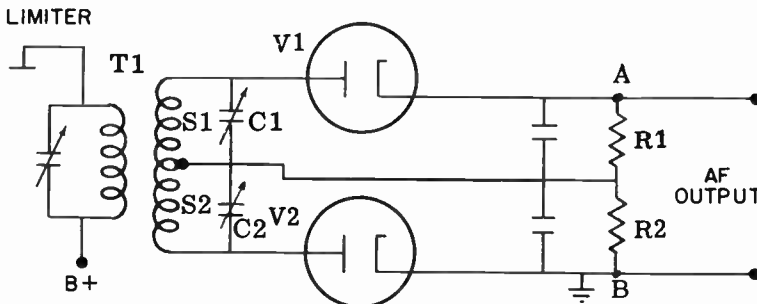
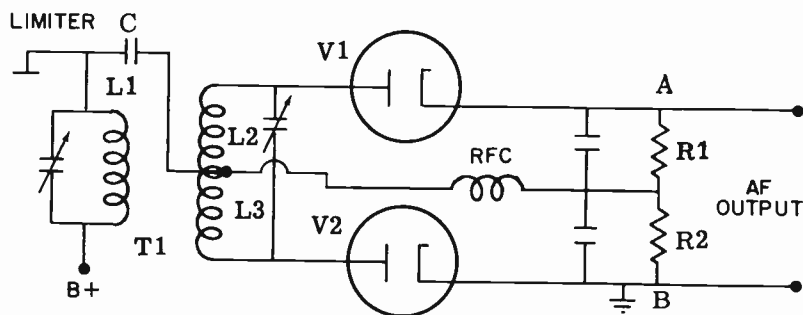
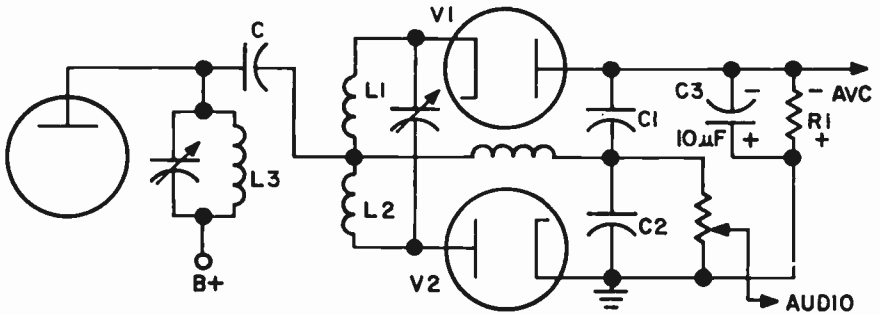

FIG. 16-17. A TRAVIS DISCRIMINATOR
FIG. 16-18. THE FOSTER-SEELEY DISCRIMINATOR.
FIG. 16-21. A RATIO DETECTOR.
**DISCRIMINATOR.** Fig. 16-17 illustrates a basic discriminator. It is known as a **TRAVIS DISCRIMINATOR**. The primary and secondary of T1 are inductively coupled. The primary tuned circuit is tuned to the center frequency of the incoming IF signal. The secondary is a double tuned circuit. S1C1 represents one tuned circuit and S2C2 represents the other tuned circuit. S1C1 is tuned to one side of the IF center frequency, while S2C2 is tuned to the other side of the IF center frequency. The resonant frequency of each secondary tuned circuit is spaced slightly more than the expected transmitter swing.
frequency, a small amount of voltage will appear across S1C1. This will be rectified and a small DC voltage appears across R1. S2C2 is resonant to a frequency on the other side of the IF center frequency. The difference in frequency between S2C2 and the primary tuned circuit is the same as that between the primary tuned circuit and S1C1. Therefore, the same amount of voltage that appears across S1C1 will appear across S2C2. This RF voltage is rectified by D2 and a DC voltage appears across R2. The voltage across R2 is equal to the voltage across R1. However, the two voltages are opposite to each other, as can be seen from Fig.16-17. Since they are equal and opposite, the output of the discriminator (with no modulation present) is zero.
The discriminator of Fig.16-17 is not popular because it has three tuned circuits and alignment is critical and difficult. However, the study of this discriminator helps us understand the basic operation of all FM discriminators.
**FOSTER-SEELEY DISCRIMINATOR.** Fig. 16-18 illustrates the Foster-Seeley discriminator. It is also known as a phase discriminator. In it, the three tuned circuits of Fig.16-17 have been replaced by two tuned circuits. Also, the primary of T1 is coupled to its secondary by induction and by
Fig. 16-21 illustrates a typical ratio detector. It is similar to the Foster-Seeley discriminator of Fig. 16-18 except for the following differences: